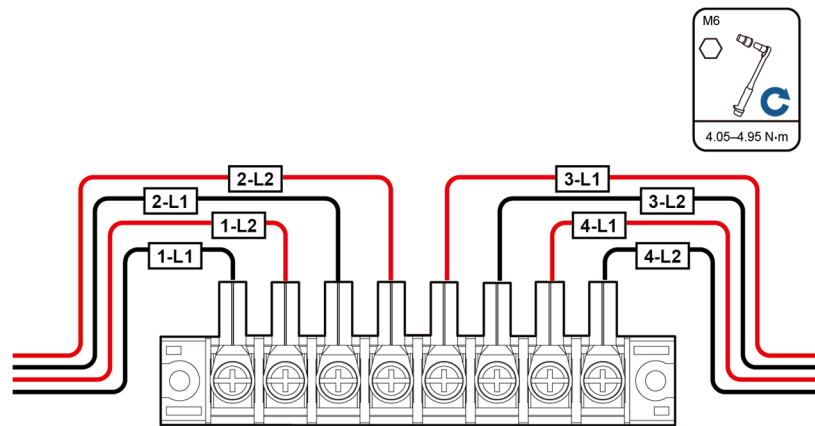

Figure 28 – Installing Power Cables for four AC dual-live Wire Inputs
- Step 2 Secure the AC input cables to the AC input wiring terminals, as shown in Figure 28